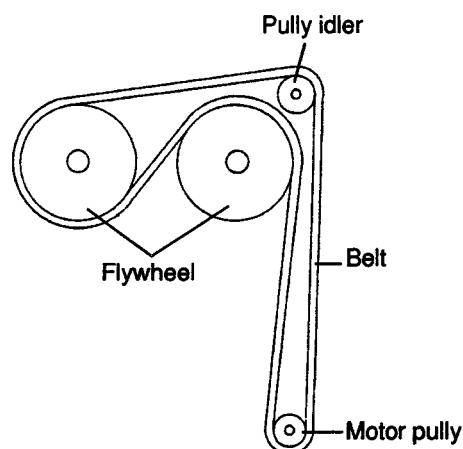

Figure 7
- (1) After removing the bottom cover, remove the belt.
- (2) Clean the new belt with absolute alcohol, and fix it as shown in Figure 7.